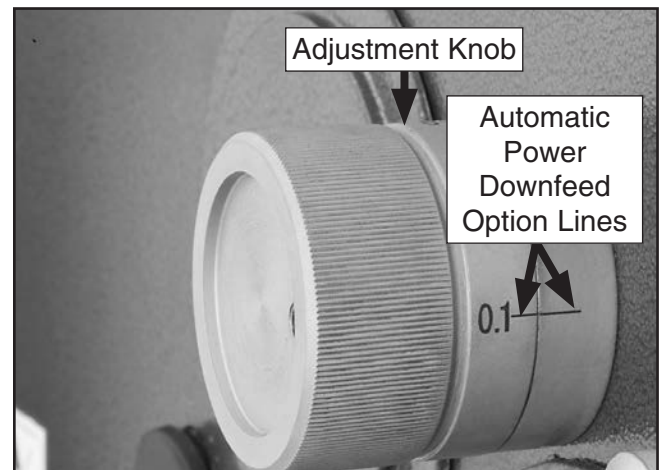

Figure 24. Automatic downfeed adjustment knob.
4. Match the lines on the adjustment knob to select an automatic power downfeed option (see **Figure 24**).